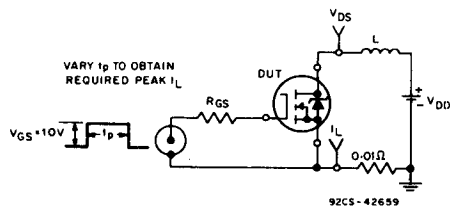

Fig. 15 - Unclamped Energy Test Circuit
④ V_{DD} = 50V, starting T_J = 25°C, L = 2.7 mH, R_{gs} = 50 Ω , I_{peak} = 18A. See figures 15, 16.